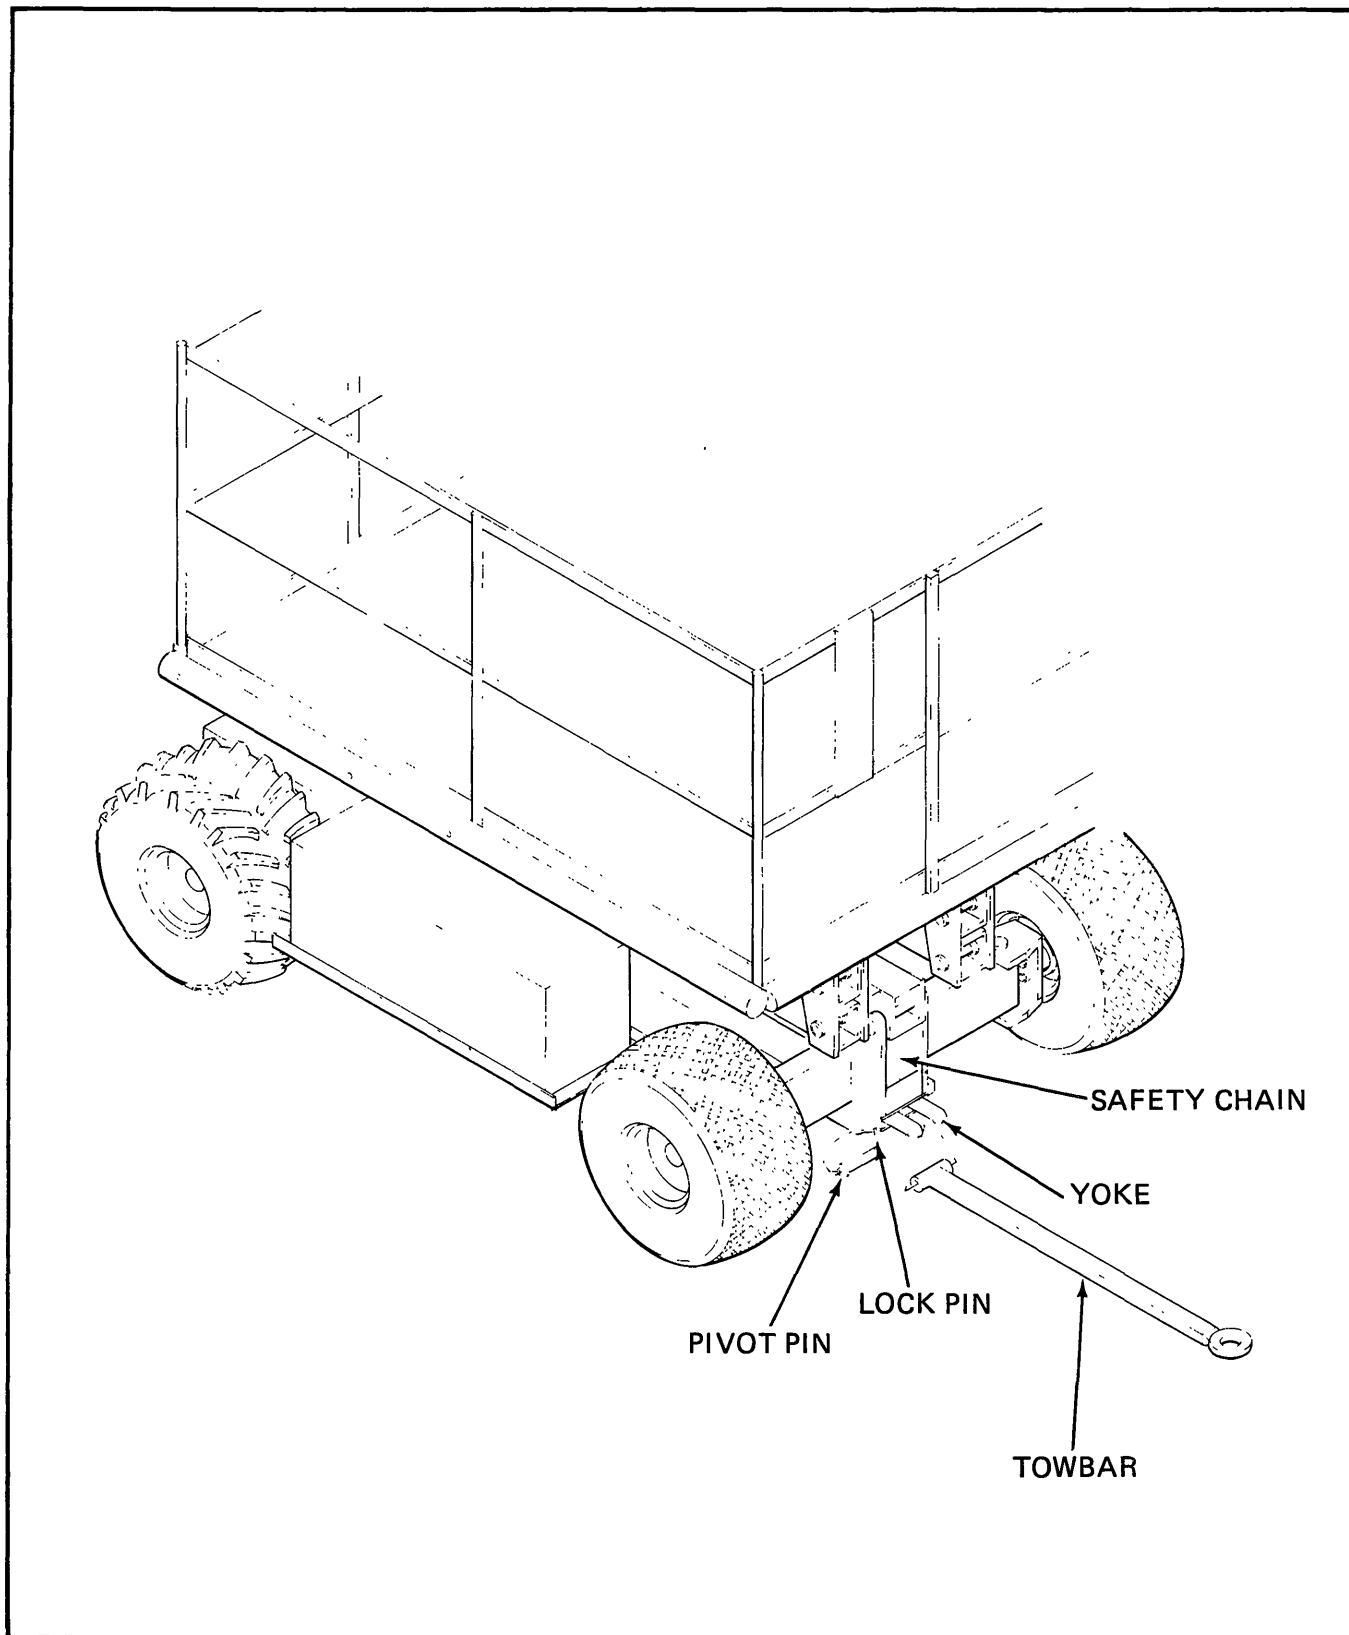

Figure 4-5. Towbar Installation
- a. Remove the lock pin securing the tow bar pivot pin in place then withdraw the pivot pin (Figure 4-5).